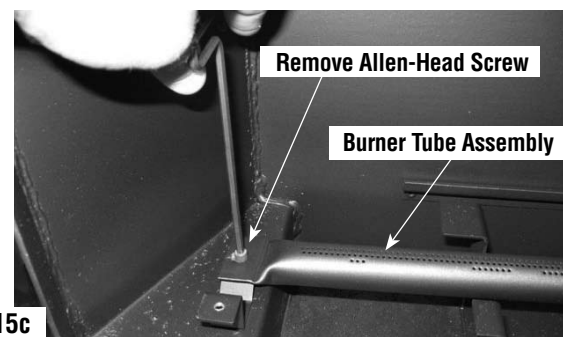
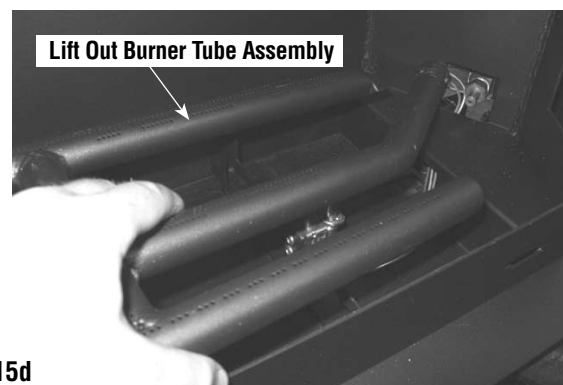

Figure 15c
Figure 15d
3. Using a 5/32" allen wrench, remove the screw which secures burner tube assembly as shown in Figure 15c. Then lift out burner tube assembly as shown in Figure 15d.